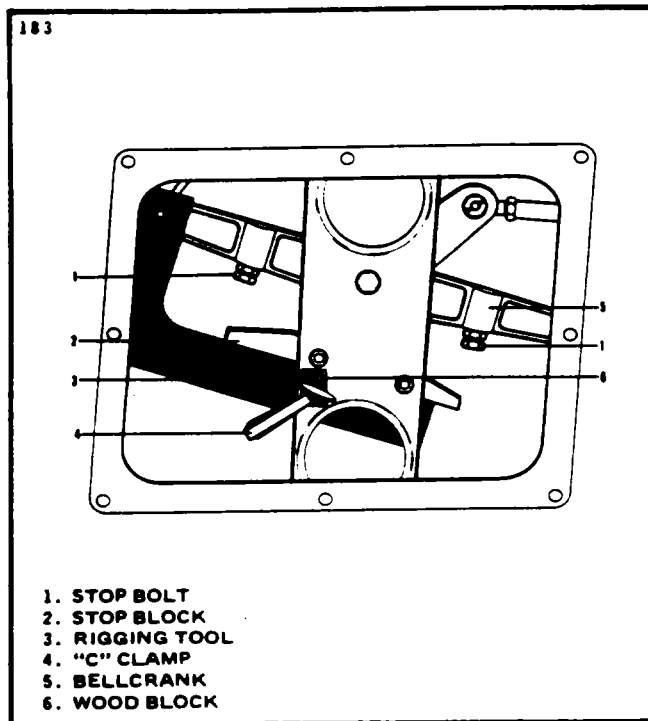

Figure 27-7. Installation of Bellcrank Rigging Tool
1. To rig the aileron controls, set the right and left aileron bellcranks in neutral position by attaching an aligning tool within both wings as shown in Figure 27-7. (This tool may be fabricated from dimensions given in Chapter 95.) The tool is used by the following procedure: